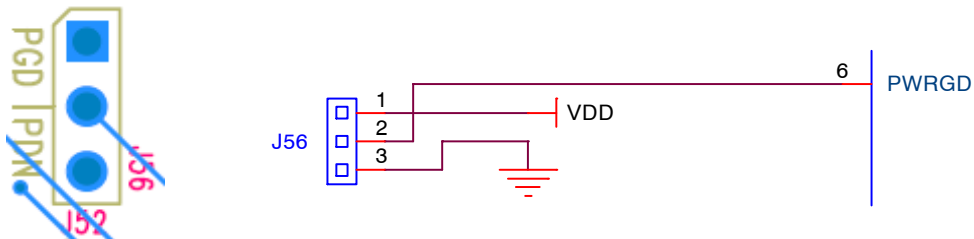

Figure 8. PWRGD/PWRDN# Pin Schematic/PCB Configuration
4. Ensure the PWRGD/PWRDN# pin is in the Low state before power up (PWRDN#). There is a jumper on pin 6 to easily select between High and Low. See Figure 8.
NB3N1200KMNGEVB and NB3W1200LMNGEVB were designed with a flexible PCB layout configuration to measure the differential HCSL (1200K) or Push-Pull (1200L) outputs with a 50-ohm scope head or high-impedance FET probe. (See Output Layout in Figures 8 and 9)